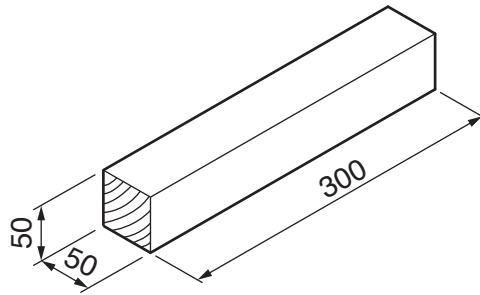

Fig. 14
- (c) The front wheels will be produced by turning between centres on a woodturning lathe. Fig. 14 shows a length of softwood before it is set up on a woodturning lathe.